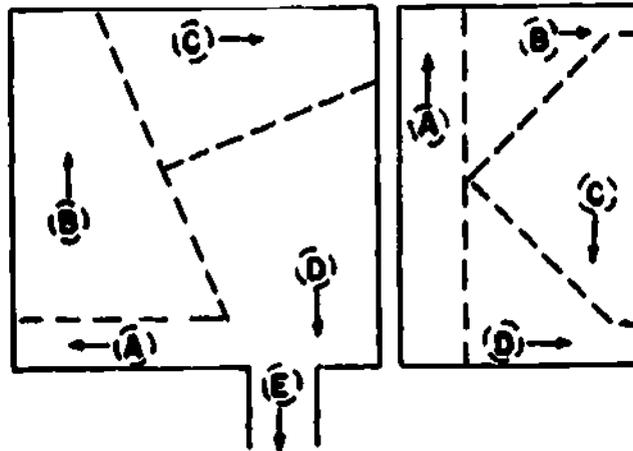

Fig 2-11. Basement excavation plans.
b. **Basement excavations.** For basement excavations, the procedures will vary according to the shape of the basement, the restrictions of surrounding properties or buildings, and the requirements for disposing of the soil. When the excavator bucket is used for this type of excavation, the starting point and the digging sequence should be planned so that the excavator conveniently works itself free of the job. Many variations of the two operating plans shown in figure 2-11 are possible. The excavator straddles the outer edge and digs over the end and side of the machine. As the excavation progresses, the excavator moves as the arrows indicate (fig 2-11).